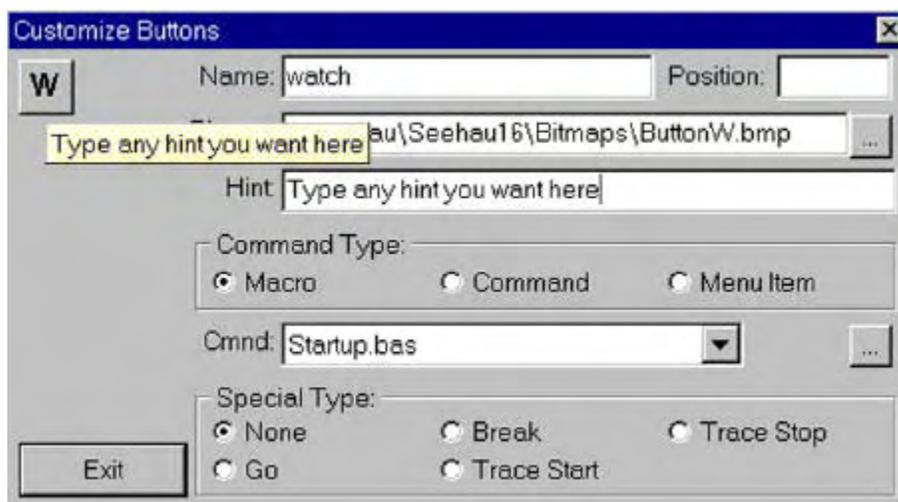

Figure 75. Button Highlight
4. In the **Hint** text field, type in a sentence as shown in the example (Figure 75). Then position the cursor on the **W** icon. The sentence appears in a yellow box.
5. Under **Command Type** (Figure 75), select **Macro**. The **Command Type** options specify what action will be associated with the new button.